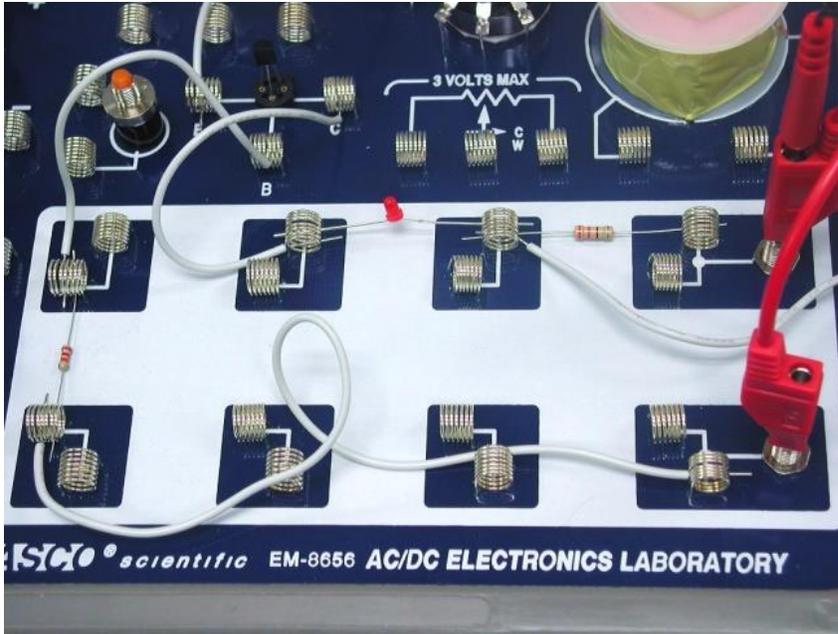

Figure 4: Close-up Setup
2. Find the red LED. If the wires have not already been bent so they will bridge between the two springs as in Figure 4, do so now. Be careful not to break the wires. When you are done, leave them bent, since repeatedly bending them will break them.
6. Attach the white jumper wires as shown in Figure 4.